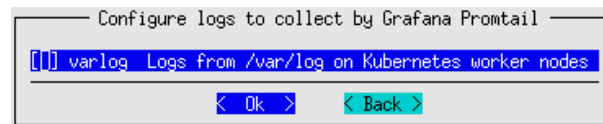

Figure 5.4: Log collection configuration for Grafana Promtail
- In the screen that configures logging for Grafana (figure 5.4), Grafana Promtail is recommended to have its collection disabled for `/var/log` from the Kubernetes worker nodes.